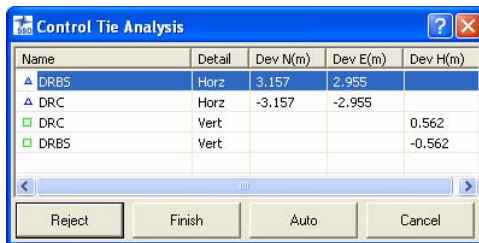

Figure 6-22. Control Tie Analysis
The *Process properties* dialog box and *Adjustment* tab enable/disable the “Control Tie Analysis” test to the adjustment process (Figure 6-22). The test will pass or fail based on the values set in the *Point Precisions* tab of the *Job Configuration* dialog box (**Job ▶ Job Configuration ▶ Quality Control**).
- A failed test is where the difference is more than the value of horizontal/vertical precision set in the *Job Configuration* dialog box. The network adjustment process will be interrupted and the *Control Tie Analysis* dialog box will display (Figure 6-22).